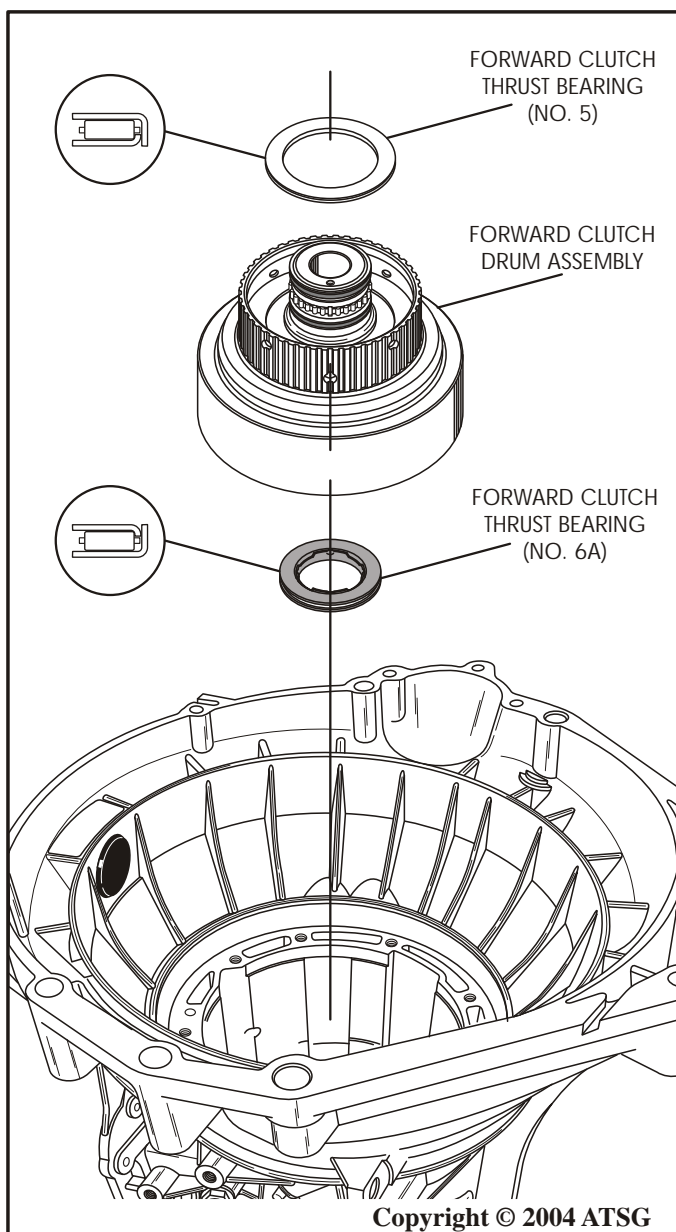

Figure 146
26. Install forward clutch thrust bearing (No 6A) onto the back side of pre-assembled forward clutch drum, in direction shown in Figure 146, and retain with a small amount of Trans-Jel®.
27. Install forward clutch thrust bearing (No 5) on front side of forward clutch drum, in direction shown in Figure 146, and retain with a small amount of Trans-Jel®.
28. Install forward clutch housing, with bearings, as an assembly, as shown in Figure 146.